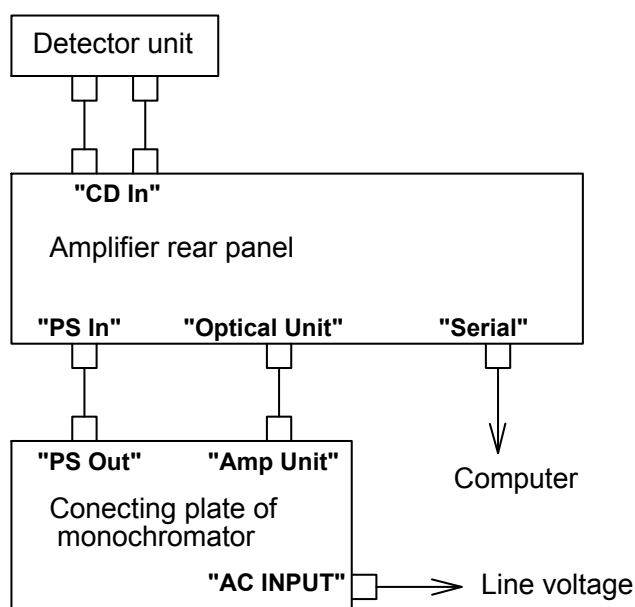

Figure. 2.7 Connection of cables
- 3) Plug the cables according to Fig. 2.7.